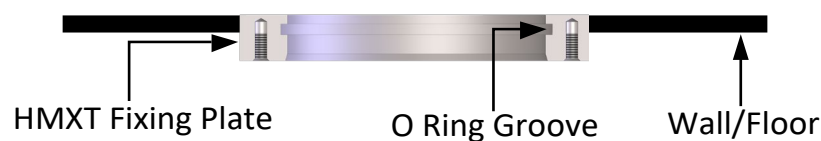

Figure 14: Flush Mounted Fixing Plate
1. When the fixing plate has been welded in to position ensure that it is flush with the internal surface (Figure 14).